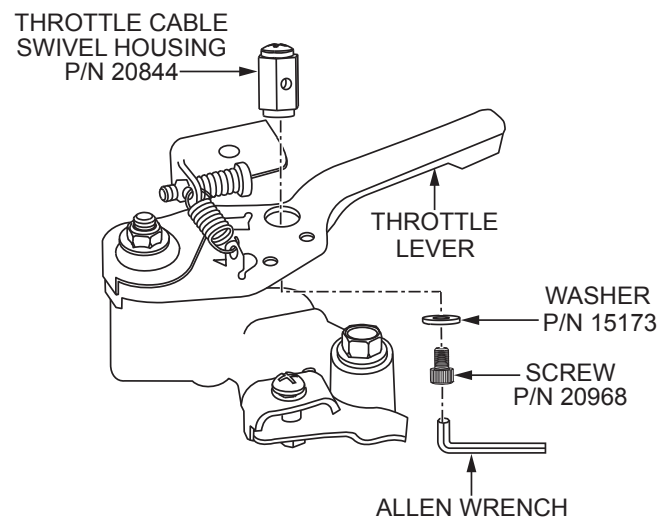

Figure 18. Throttle Cable Swivel Housing Installation
- Insert the screw (P/N 20968) through the washer (P/N 15173). See Figure 18.
- From **underneath** the throttle lever, insert the screw (P/N 20968) with washer (P/N 15173) through the hole in the throttle lever. See Figure 18.
- Attach the throttle cable swivel housing (P/N 20844) to the screw (P/N 20968). See Figure 18.